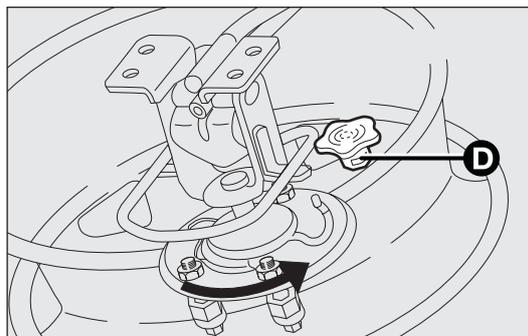

fig. 169
- refit the wheel to the mounting, turn to the end of the slot (as shown in fig. 169) and tighten the knob D;